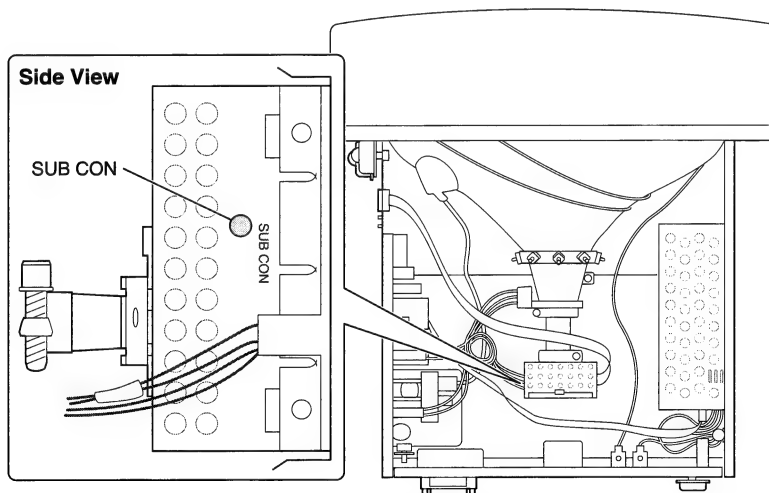

Figure 5 Subcontrast Control
3. FIGURE 5. Using a two-inch plastic screwdriver, turn the SUB CON control to midrange.
9. FIGURE 5. Using the two-inch plastic screwdriver, turn the SUB CON control until the luminance at the center of the screen reads at the middle of the "10" scale on the light meter.